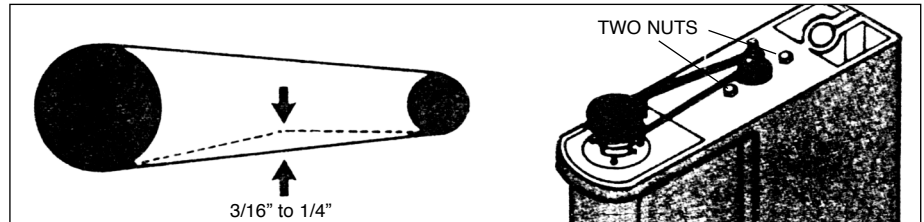

Figure 6
2. The drive belt tension may be adjusted by removing the top cover and then loosening the two nuts on either side of the motor pulley. Adjust the motor position and tighten the nuts so that moderate finger pressure against the belt causes it to deflect 3/16" to 1/4" (see Figure 6). Excessive belt tension may result in damage to the bearings. **Note:** Belt tension can also affect the generation of "noise" in the drill press. Although it does not affect drilling accuracy, it may be desirable to adjust the tension for minimum noise.